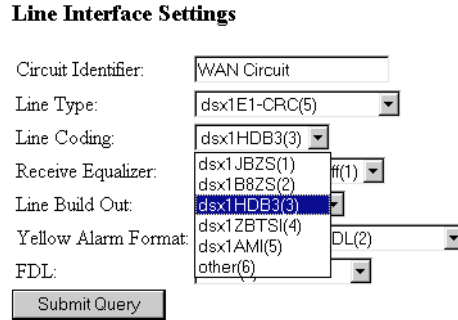

Figure 41. Line Coding pull-down menu with dsx1HDB3(3) selected
- From the *Line Coding* pull-down menu (see figure 41) select *dsx1AMI(5)* or *dsxHDB3(3)*. Most installations will use HDB3.